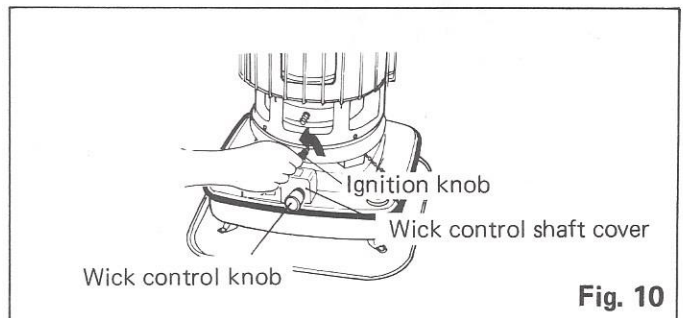

Fig. 10
1. Remove the ignition knob by turning it counter-clockwise and pull out the wick control knob, then remove the wick control shaft cover. (Fig. 10)